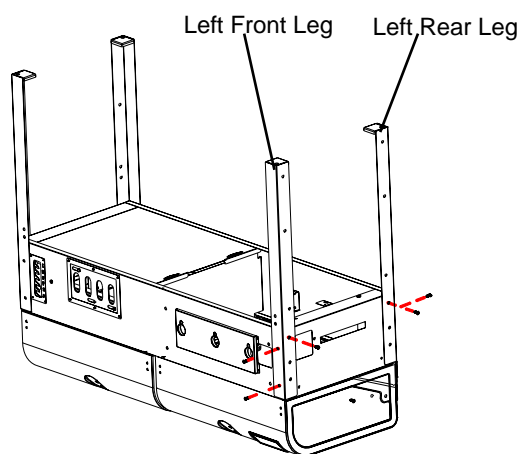

Fig. 2
Refer to Fig. 2 and attach the Left Front Leg-Green Label #4 and the Left Rear Leg-Yellow Label #3 as shown using (5) M6x15 bolts.